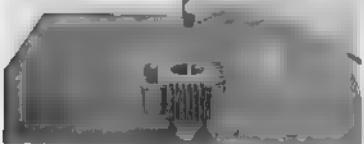

Fig. 3.51 Measuring the cylinder bore
1. Measure the cylinder bore taper out-of-round with a precision cylinder gauge ①. Take the measurement at the top, middle and bottom in both the X and Y axes. [Fig. 3.51]